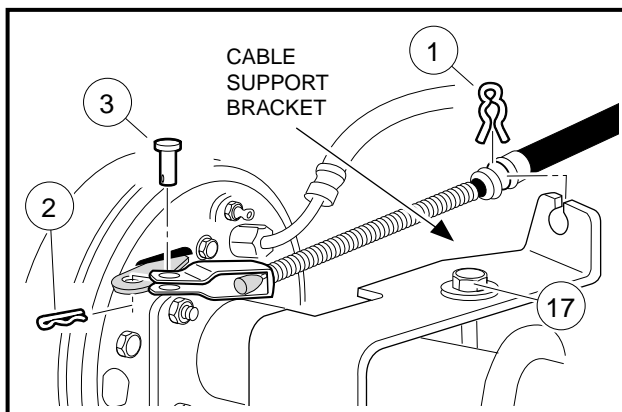

Figure 16-23 Park Brake Cable
- 4.1. Remove the park brake cable clip (1), hair spring cotter pin (2) and clevis pin (3) (**Figure 16-23, Page 16-11**).
- 4.2. Remove the cable from the cable support bracket (**Figure 16-23, Page 16-11**).
- 5.1. Remove the bolt (17), washers, and lock nut from the bracket (**Figure 16-23, Page 16-11**).